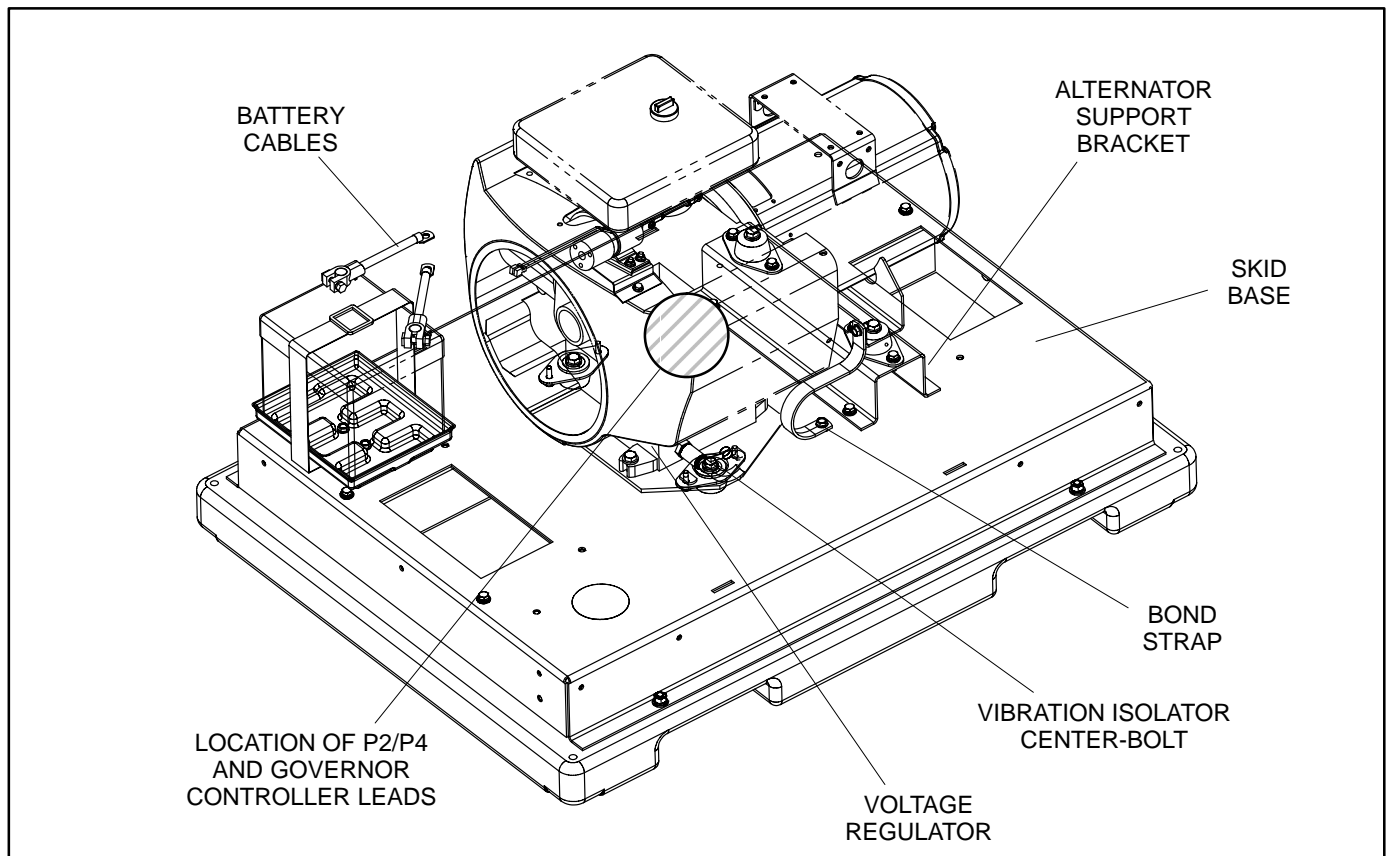

FIGURE 5-2. ENGINE/GENERATOR ASSEMBLY
3. Disconnect plugs P2 and P4 of the control harness (Figure 5-2).